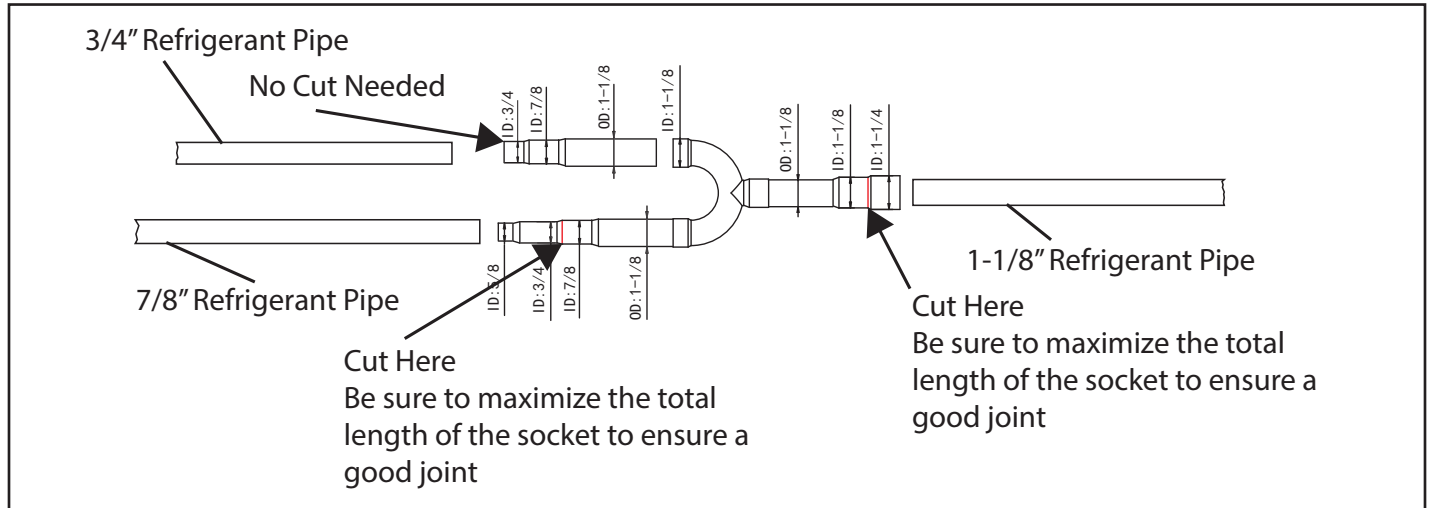

Figure 3. Cutting Branch Pipe Kits to Size Example
- The piping can be cut to suit the installation needs. See figure 3.